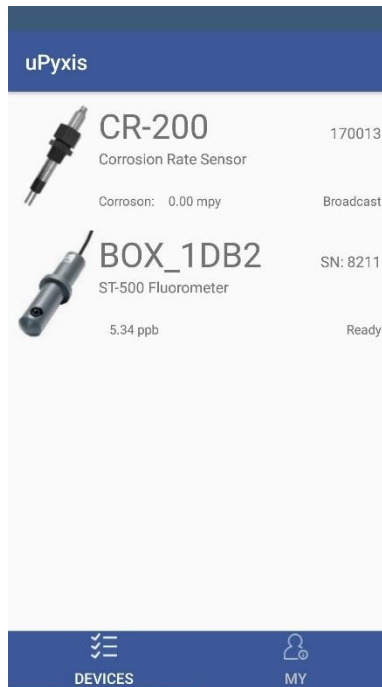
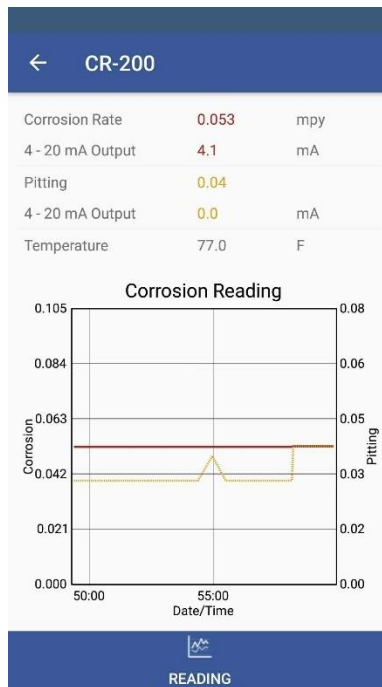
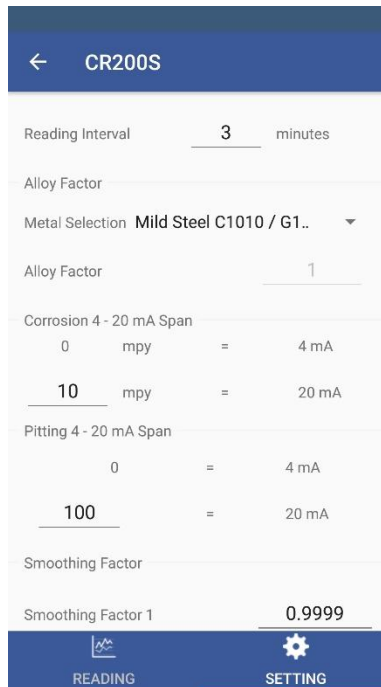

Figure 16. Discovered Pyxis Bluetooth Devices
Figure 17. uPyxis showing the results of the connected CR-200
Figure 18. Configure CR-200 via uPyxis phone app
Press the power button to turn on the CR-200. The CR-200 will be in the default beacon mode. Turn on the phone's Bluetooth first and then launch the app. The app will automatically scan the Pyxis Bluetooth devices. Select the desired CR-200, identified by the series number (SN), from the list of the discovered devices to connect (figure 16). After connection, the app will display and chart the corrosion rate of the CR-200 (figure 17).
Press and hold the Bluetooth mode button on the CR-200 for 20 seconds (or until the Bluetooth indicator light is on) to switch to the pairing mode. In this mode, the Bluetooth mode indicator light will be flashing. Turn on the phone's Bluetooth first and then launch the app. The app will automatically scan the Pyxis Bluetooth devices. Select the desired CR-200 from the list of the discovered devices to connect (figure 16). After connection, tap **Setting** tab to launch the setup page (figure 18).